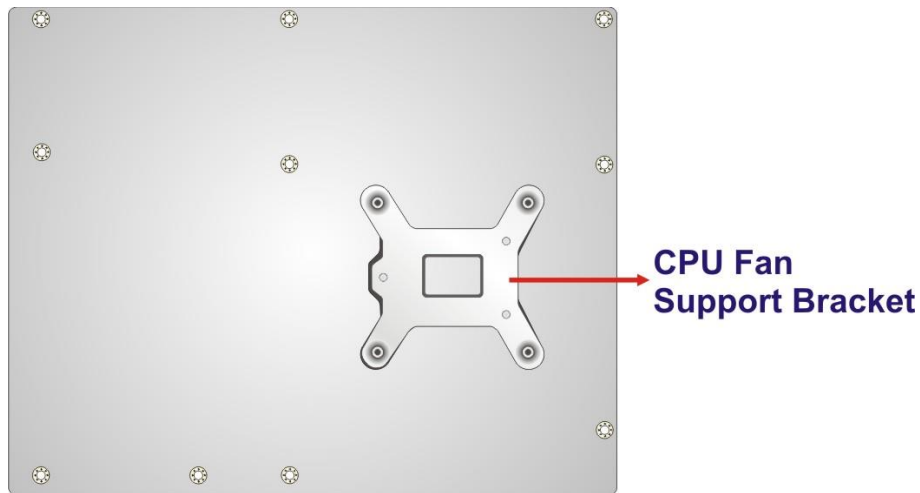

Figure 3-7: Cooling Kit Support Bracket
Step 1: A cooling kit bracket is pre-installed on the rear of the motherboard. See **Figure 3-7**.